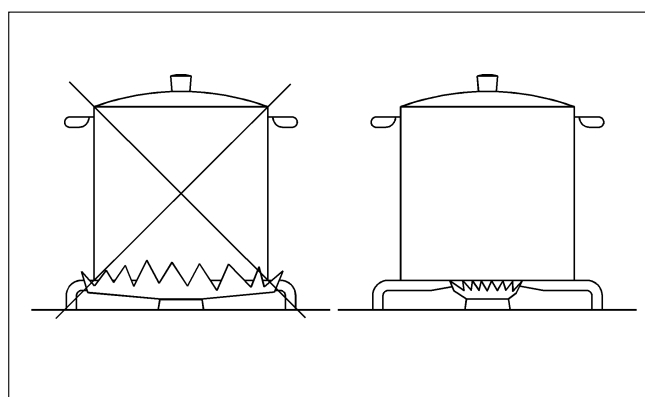

FIG. 2
- use adequate pans for each burner (consult the following table and fig. 2).